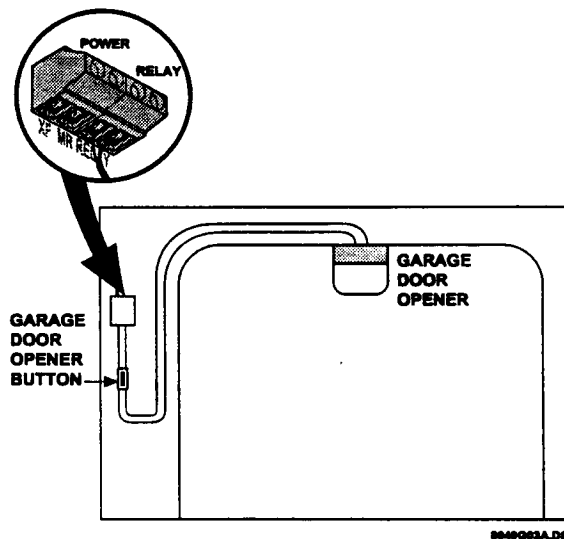

Figure 5. Connecting the Interface to a Garage Door Opener
- 1) Using a 2-conductor, 22-gauge (minimum) stranded wire, connect the relay in parallel with any existing garage door opener button as shown in Figure 5 (the relay is normally open).